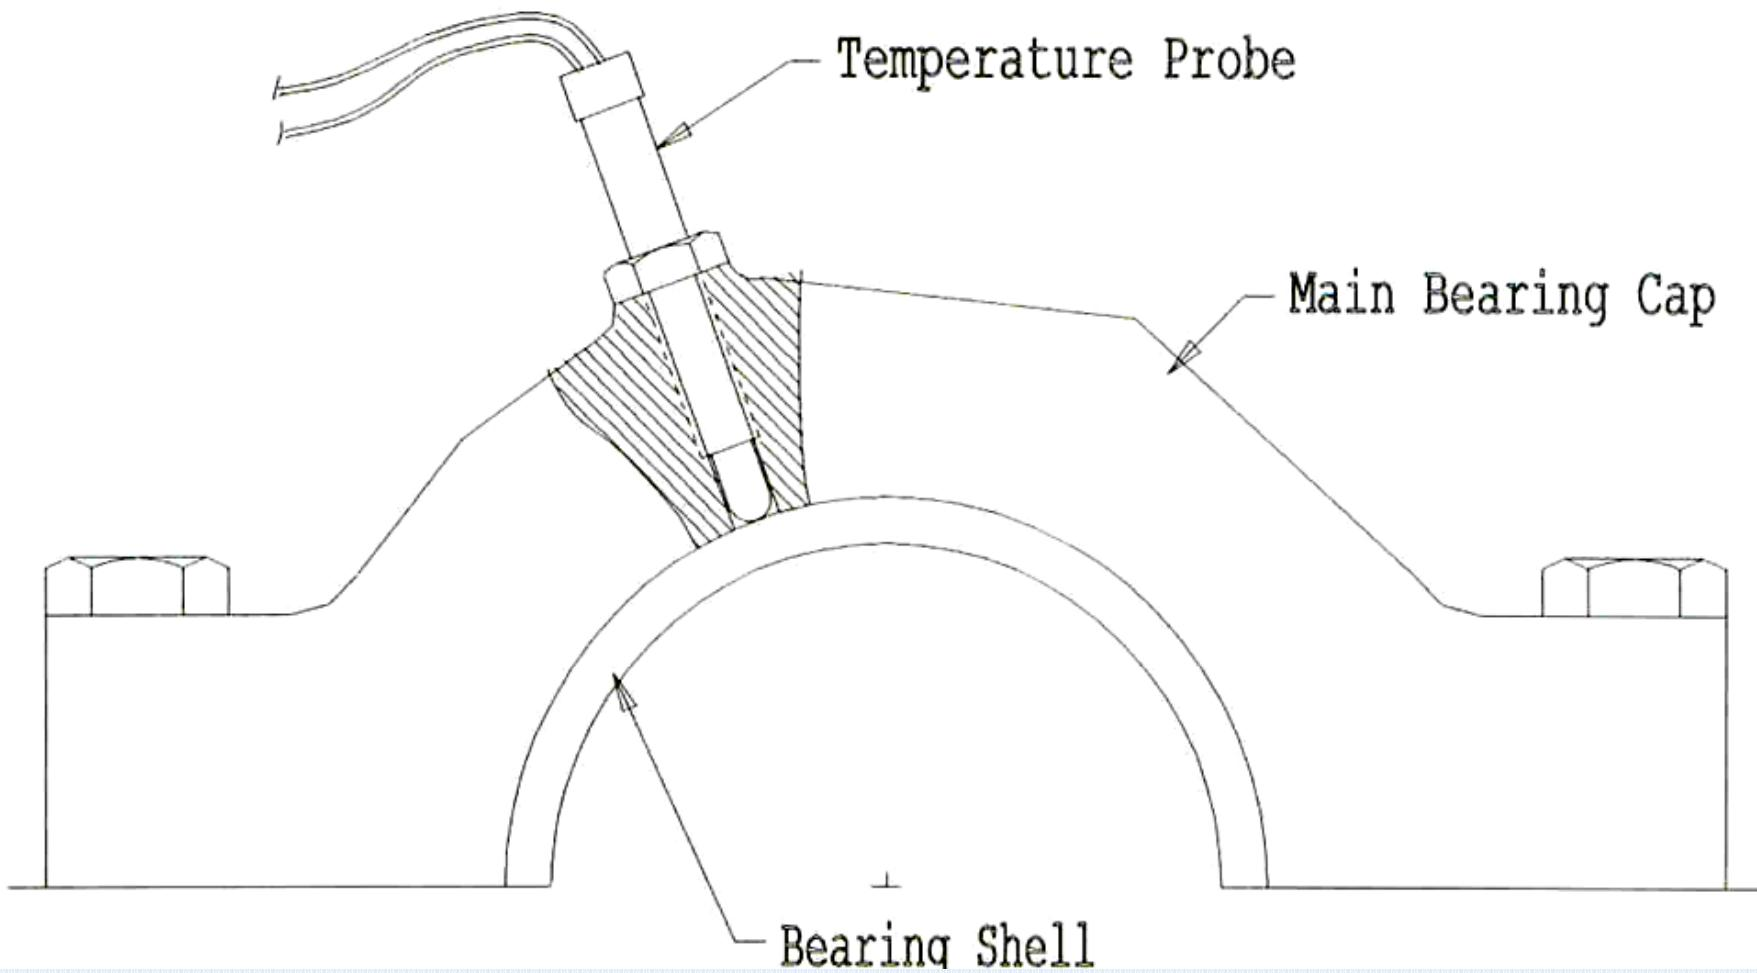

Figure 5-17 Bearing Temperature Probe
- Main bearings may also be monitored for temperature. A sensor for that purpose is shown in Figure 5-17.